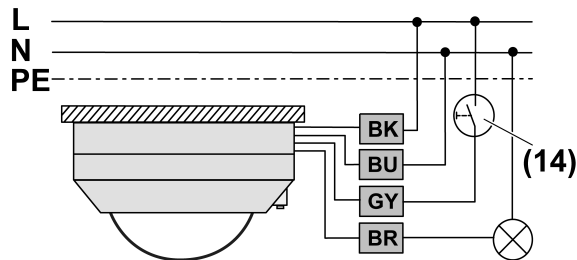
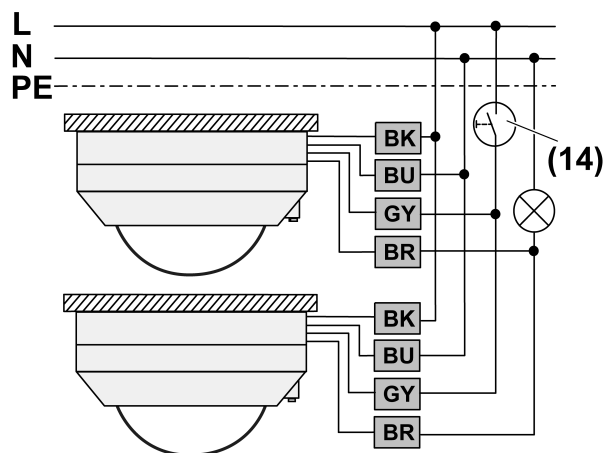

Figure 9: Connection diagram, single device
Figure 10: Connection diagram, parallel circuit for expanding the detection field
- Connect the sensor top according to the connection diagram (Figure 9) or switch the sensor tops according to the circuit diagram (Figure 10).
- Optionally, connect the installation button (14) (Figure 9) or (Figure 10). This is only necessary if manual operation is also desired.